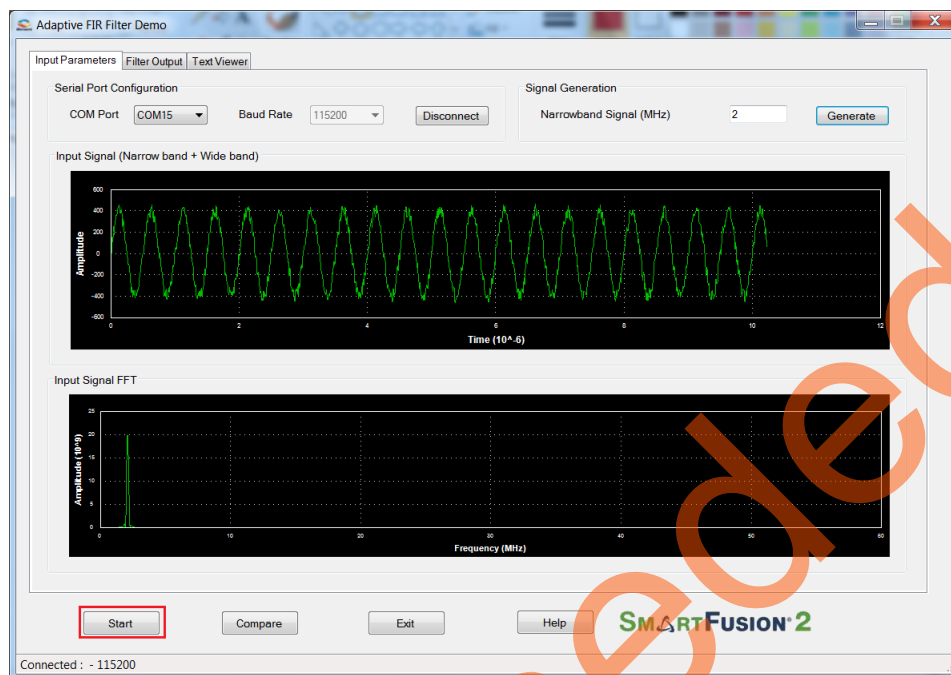

Figure 16 • Adaptive FIR Filter Demo Start
- Click **Start**, to load the input data (1K samples) to the SmartFusion2 device for processing the filtering operation, refer to Figure 16.